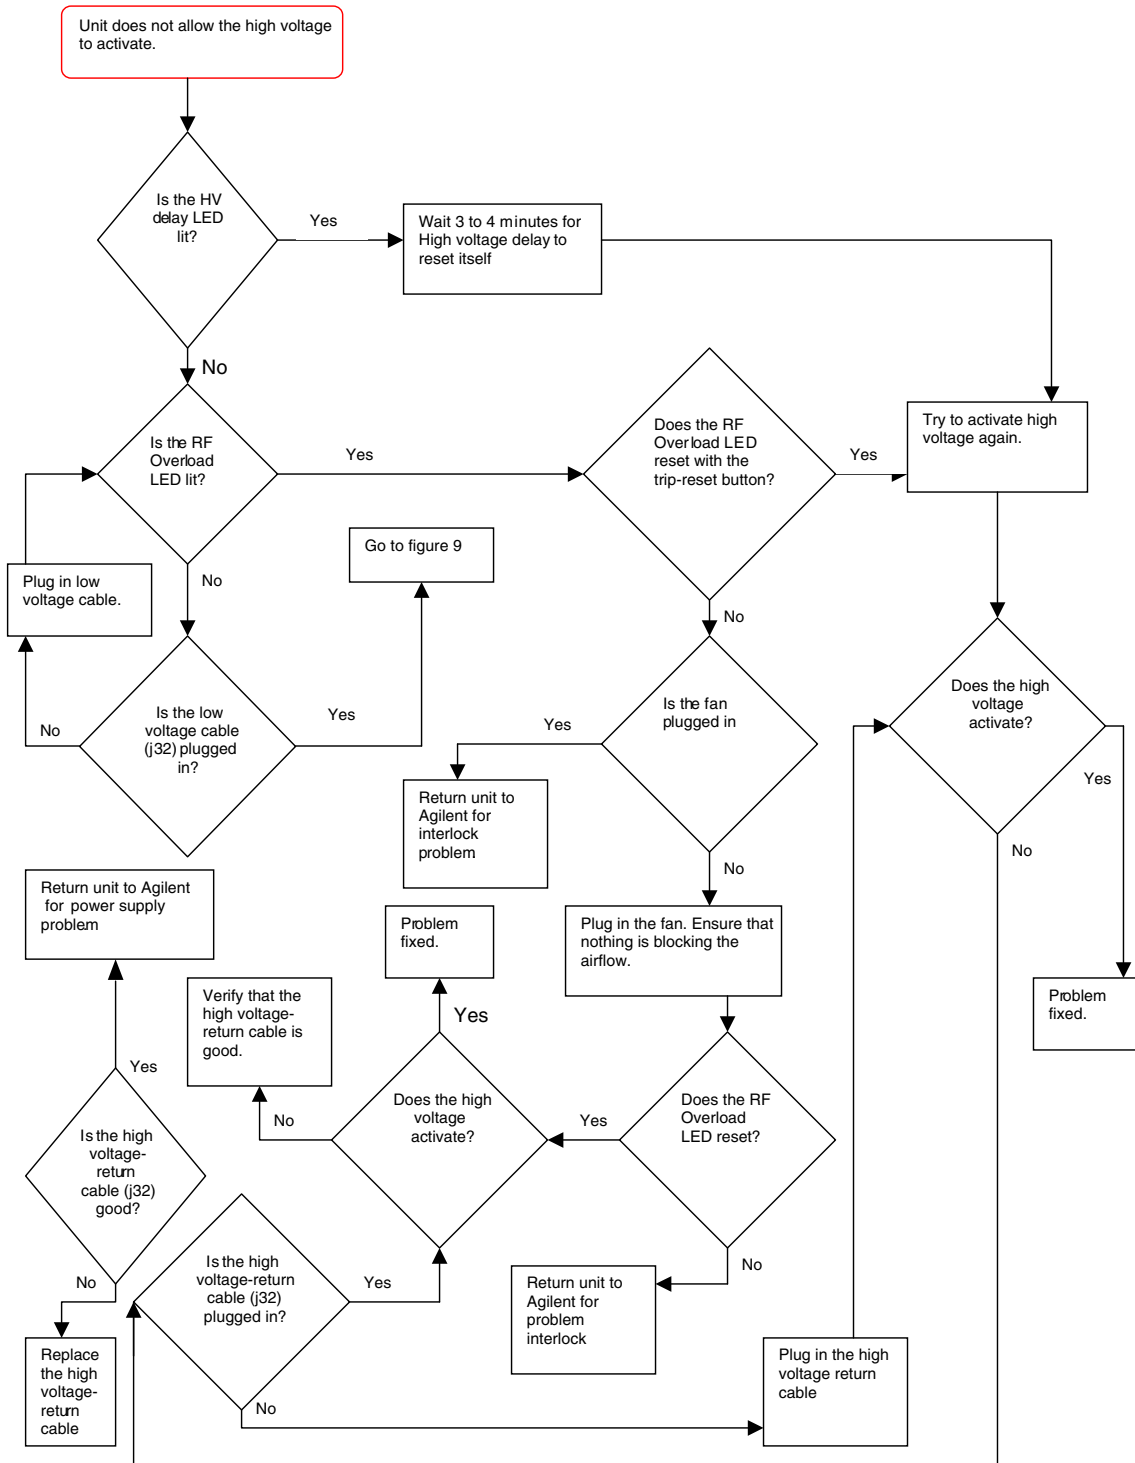

Figure 6 The unit does not allow the high voltage to activate.
- The unit does not allow the high voltage to activate (Figure 6 on page 17).